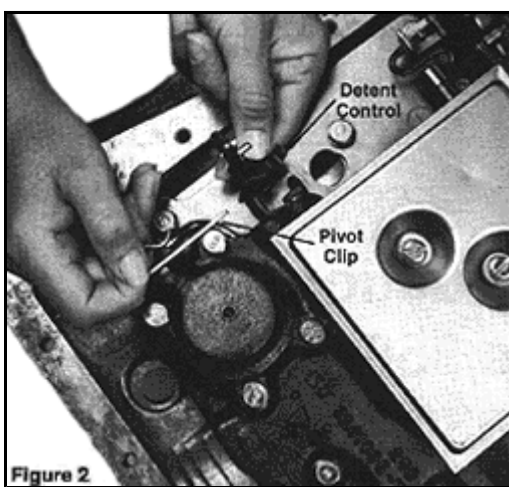
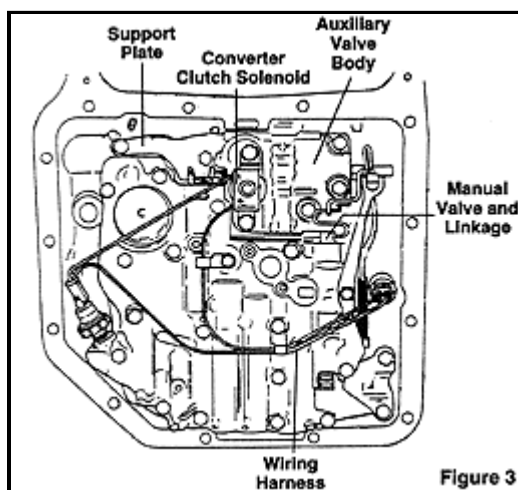

Figure 2
Figure 3
STEP 4 Remove the two (2) filter screws and the filter along with its gasket. Remove the detent control pivot clip and link as shown in Figure 2. Make a diagram of your internal wiring harness and carefully remove the wiring. (See Figure 3) Remove the eighteen (18) valve body bolts and lower the valve body into the oil pan, being careful to disconnect the s-link from the manual valve.
STEP 5 Remove the converter clutch solenoid which is retained by two (2) bolts. Don't lose the plastic retainer and check ball from the solenoid. Remove the three (3) auxiliary valve body bolts and put the auxiliary valve body in the oil pan. Remove the support plate bolts and support plate. Lower the separator plate, gaskets and five (5) check balls.